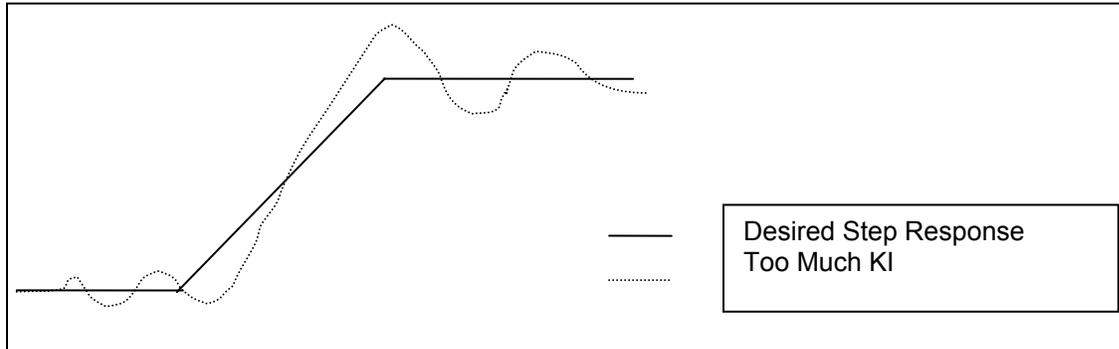
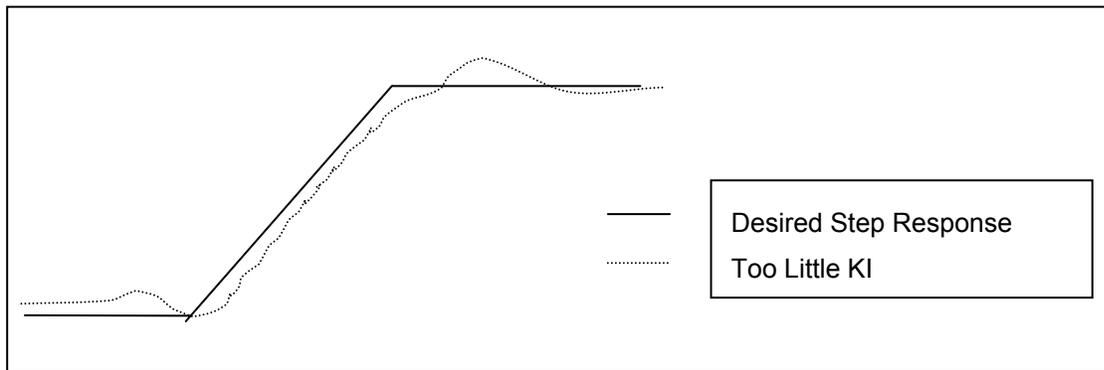

Figure 2-12
Figure 2-13
- Once the KP term has been obtained, continue executing the motion while raising the KI term until the long-term “following” error is acceptable. This error can be measured at the two knees of the motion profile. Increasing the KI term, increases the response time of your system. The motion profile should have a steeper slope as KI increases. (See FIGURE 2-12 and FIGURE 2-13.)